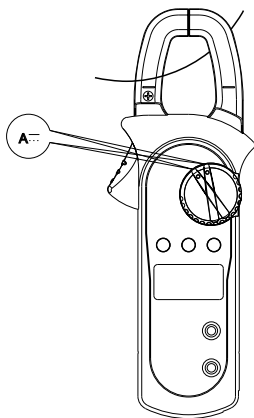

Figure 11
9. DC current measurement (A \rightleftharpoons) (shown in Figure 11)